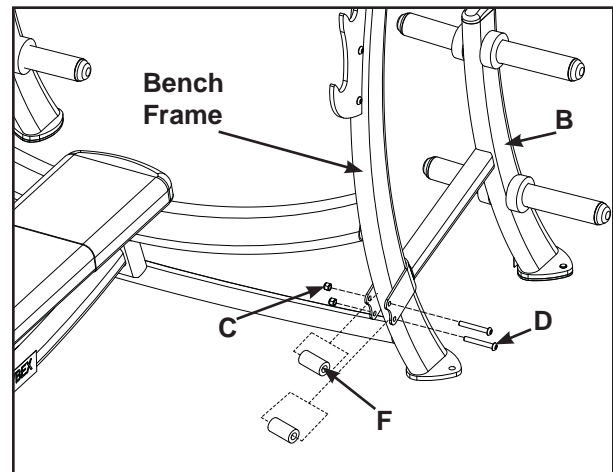

Figure 3
- E. Attach rubber foot (E) on RH weight storage (A) and LH weight storage (B).
- F. Align LH weight storage (B) on bench frame. See Figure 3.
- G. Position bushings (F) on weight storage (B) See Figure 3.
- H. Using a 7/32" Allen wrench and a 9/16" wrench, secure weight storage (B) and bushings (F) in place with two Button Head Socket Cap Screws (BHSCS) (D) and two locknuts (C).
- I. Repeat steps 3F and 3G for RH weight storage (A).